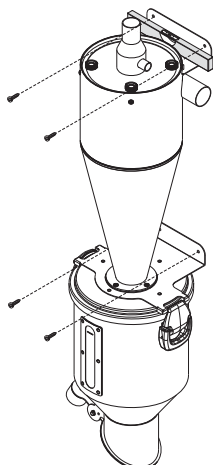

Fig.1
**The cyclonic dispenser with self-cleaning must be installed in a perfectly horizontal position with a spirit level (Fig.1)**
In order to get access to the filter and to the inside of the cyclone you need to remove the cover placed on the top unscrewing the four screw-handles, after have disconnected the aspiration and autocleaner hoses. The filter is then fasten to the cover with a screw-handle (see figure 1 page 7) The filter should always be kept in perfect conditions and it must not have any cut or abrasion, and it must be possible to clean it easily. In case of rests of scaling on the filter's woven even after an accurate cleaning, it needs to be replaced with a new one.